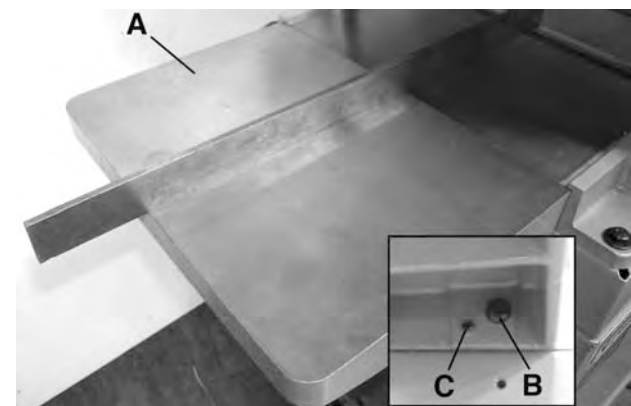

FIGURE 7
1. Place the first extension table (A) Fig.7 against the front of the machine, just below the table surface.
2. Fix the extension table to the machine using three hex. bolts, washers and spring washers (B).